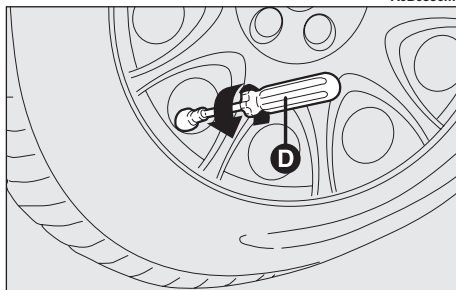

fig. 15
3) Unscrew the tyre valve plug, remove the element inside the valve by using the appropriate tool (**D-fig. 15**); be careful not to place it on the sand or on a dirty surface.